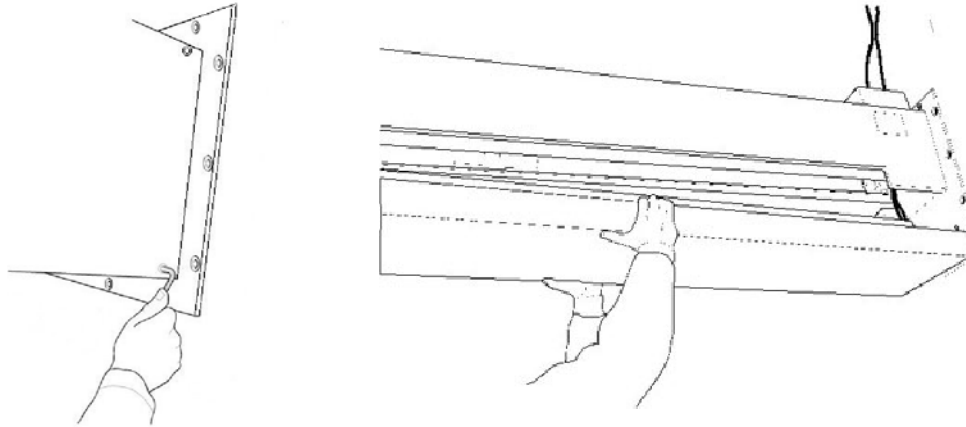

Fig. 5-28 Removing the front safety cover
3. Remove the front safety cover, see Fig 5-28.